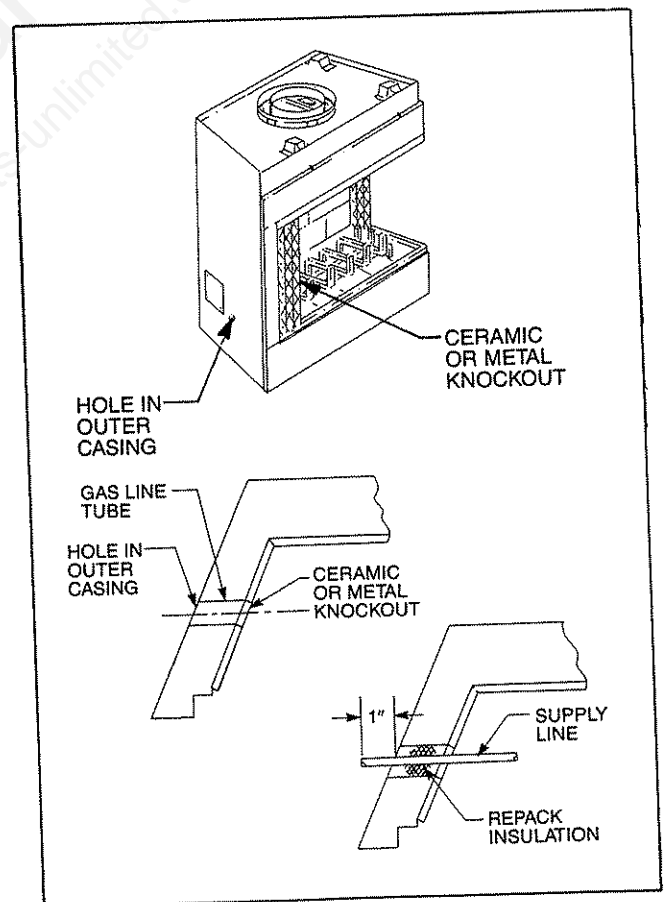

Fig. 25. Install iron pipe gas line through provided hole in angled side of fireplace.
Locate the gas line hole in the outer casing of the fireplace and remove the insulation from the gas line tube. (Refer to Fig. 25.)
NOTE: The gas pipe should not come in contact with any wood structures until it has reached a point at least one (1) inch away from the fireplace side. (See Fig. 25 for installation clarification.)